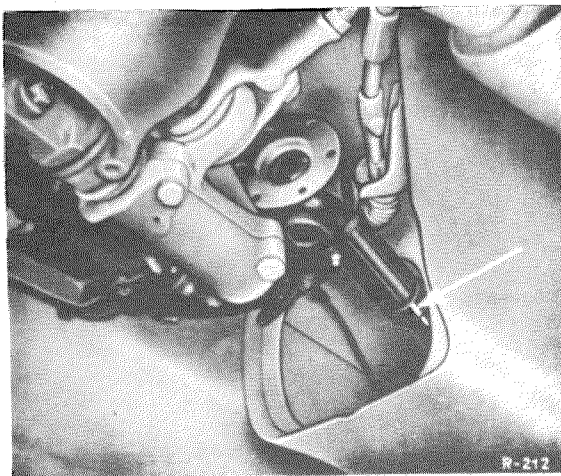

Fig. 41 — 1/1
4. Mark the relative position of the slip coupling and the propeller shaft, pull the slip coupling toward the rear and remove (Fig. 41 — 1/1).